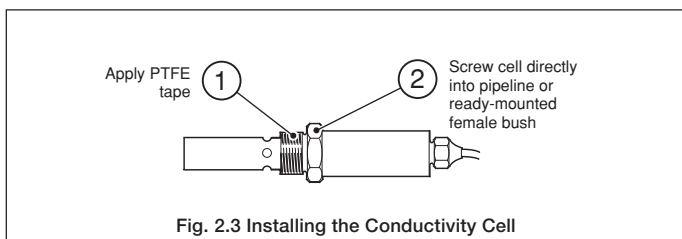

Fig. 2.3 Installing the Conductivity Cell
2.4 Installing the Conductivity Cell – Fig 2.3